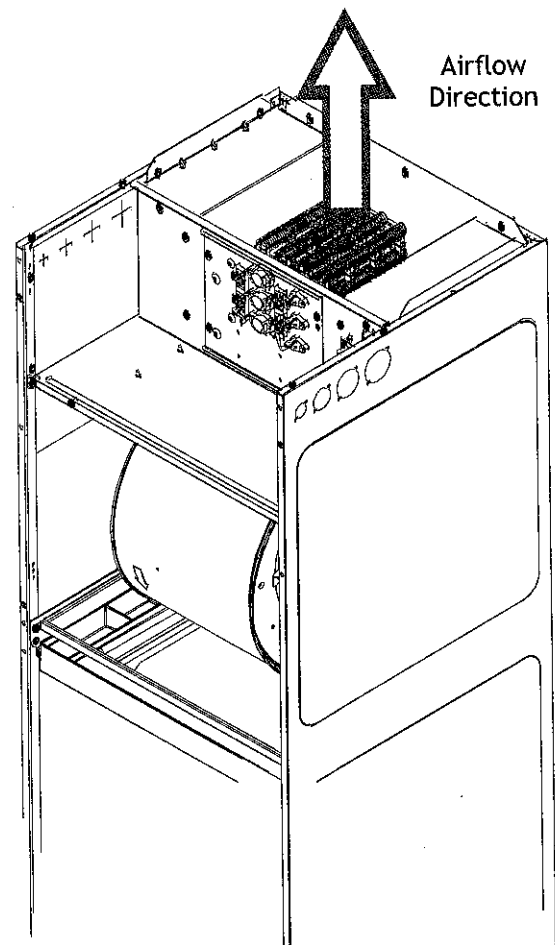

FIGURE 1
4. Slide the electric heat kit into the opening in the air handler, making sure the direction of airflow decal attached to the electric heat face plate is pointing in the correct direction, and secure the electric heat face plate using the screws removed in Step 2. Use caution to not bend or damage the electric heating elements, the limit switches or fuses during this process. See Figure 1.